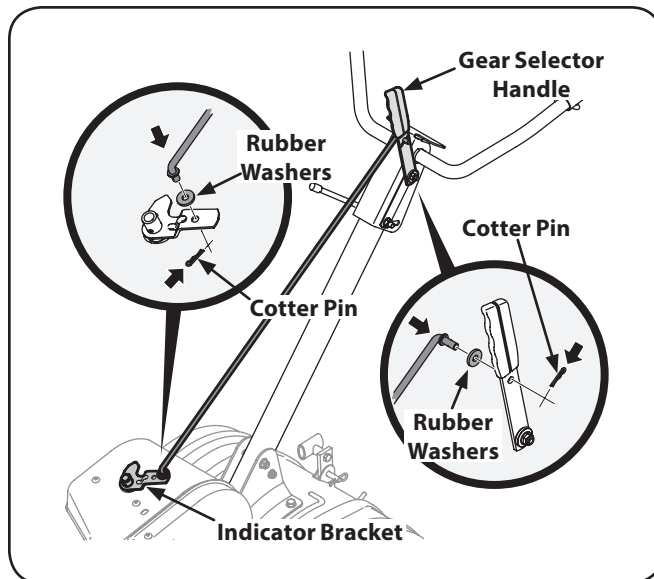

Figure 3-7
3. Insert the shorter (angled) end of the control rod through the indicator bracket on the shift cover and secure with the cotter pin that was previously removed. See Figure 3-7.
4. Insert the longer end of the control rod through the hole in the gear selector handle and secure with the cotter pin. See Figure 3-7.